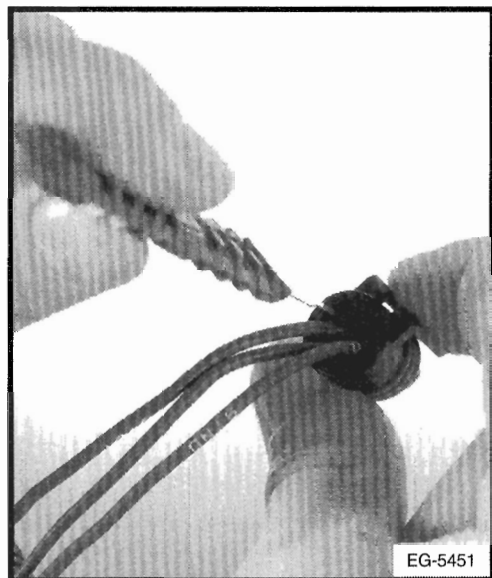

Figure 6–32. – Release Terminal
4. Push the blade forward until the lock tab is depressed (**Figure 6–32.**).